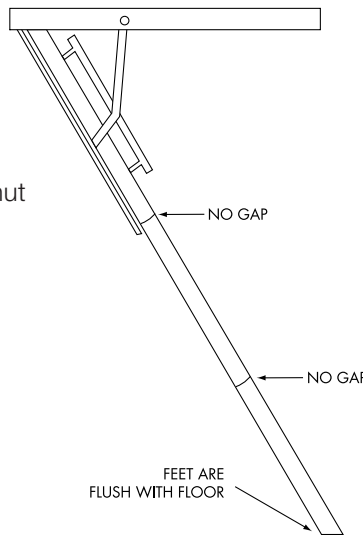

FIGURE 8 - CORRECT SETUP
**WARNING: The bottom section must fit flush with the floor. Failure to cut properly could result in undue stress on the component parts of the stairway, resulting in serious injury (see FIGURES 8 and 9).**